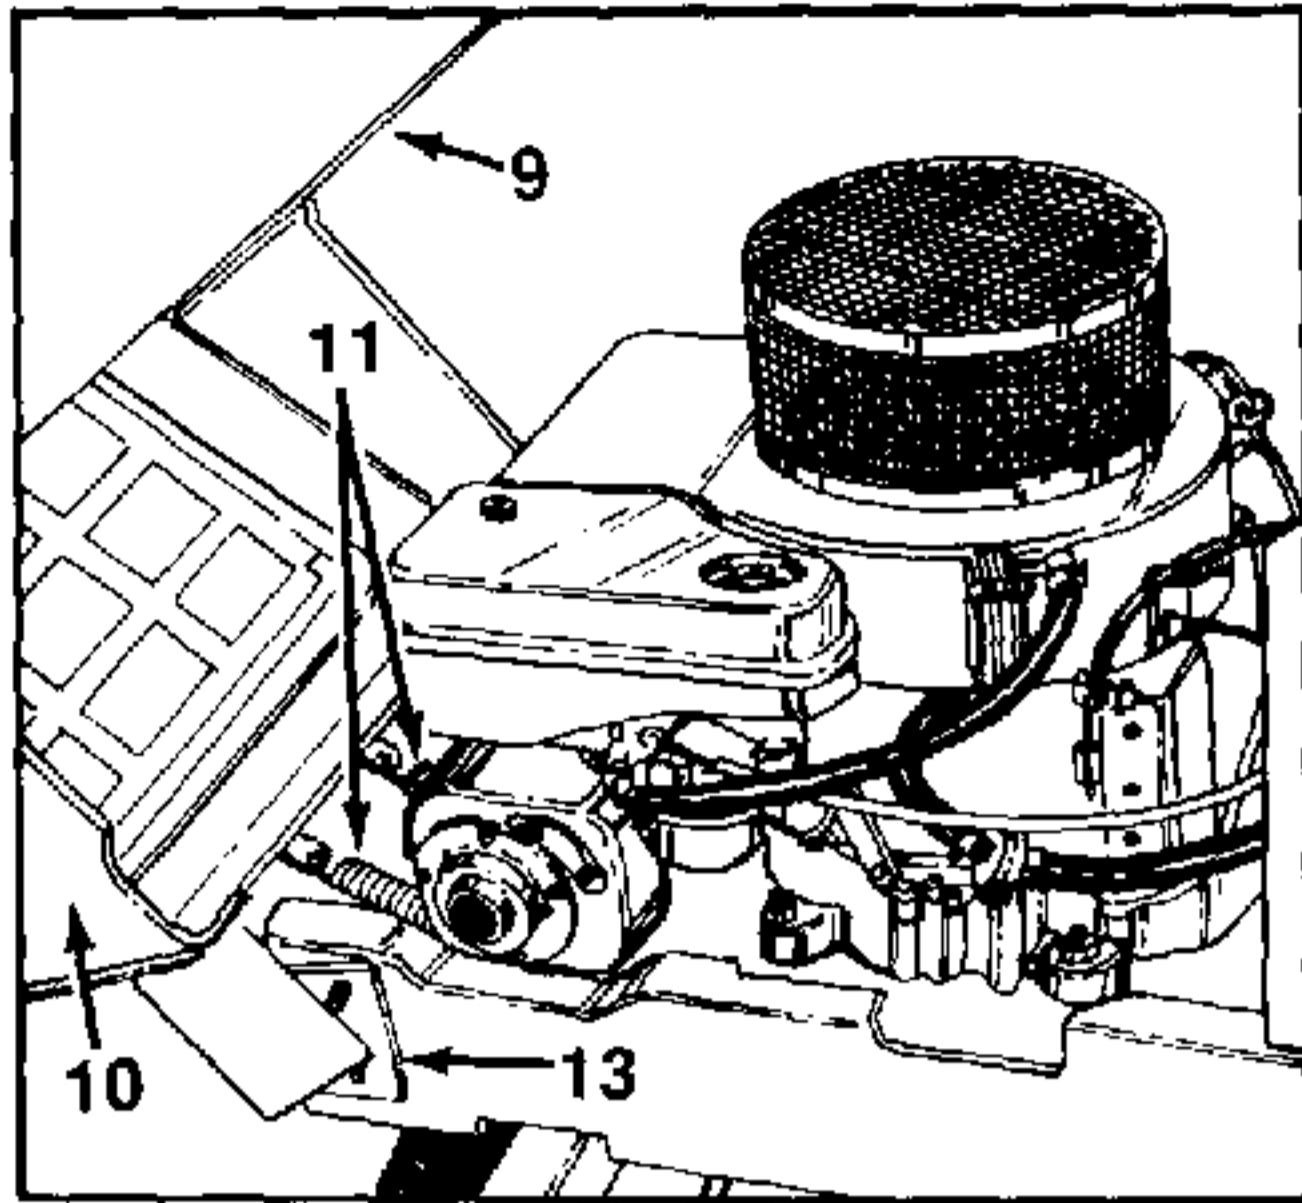

FIGURE 4.
4. Remove the hood (Ref. 9) and grille (Ref. 10) by removing the two extension springs (Ref. 11) from the grille and front chassis (Ref. 15). See figures 4 and 5.